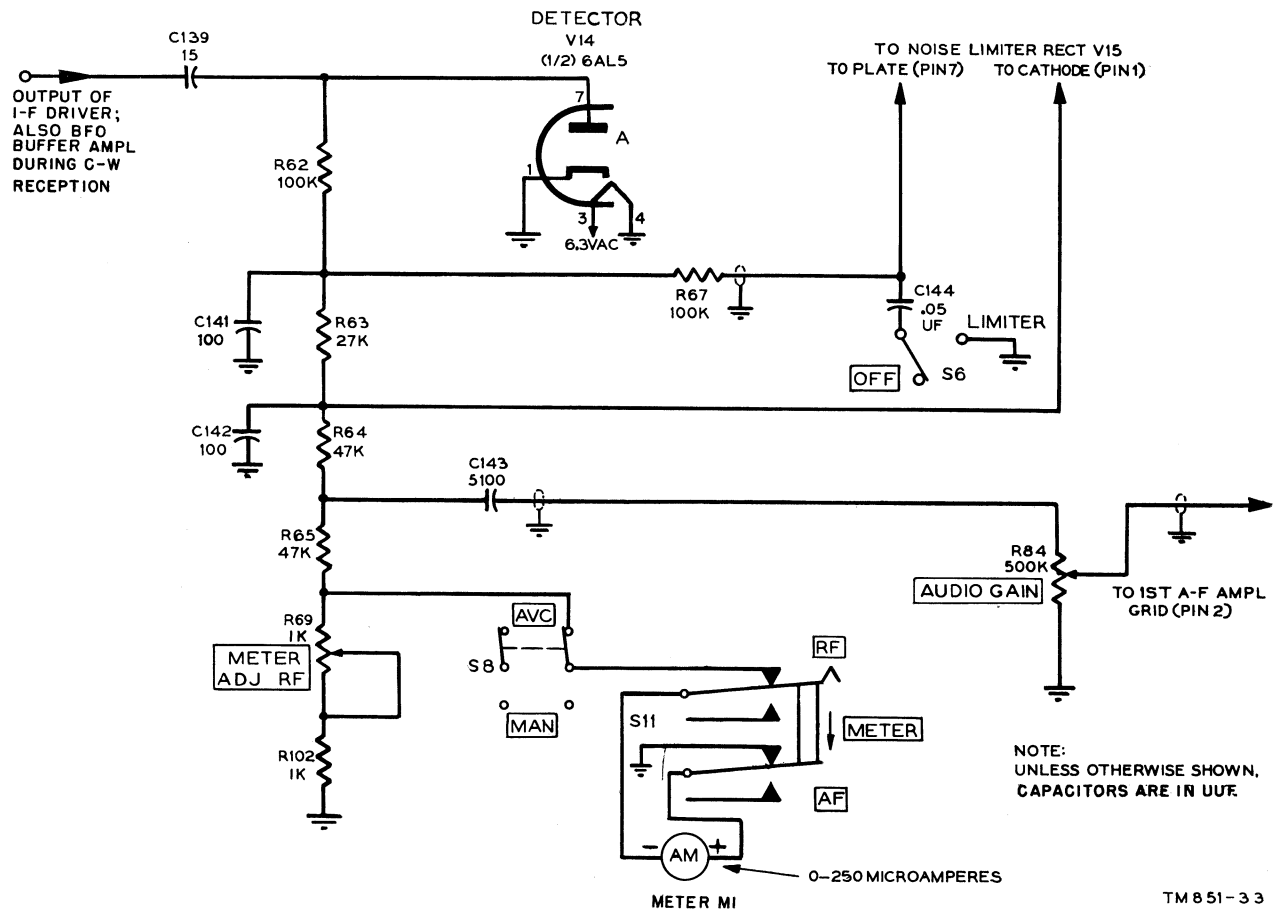
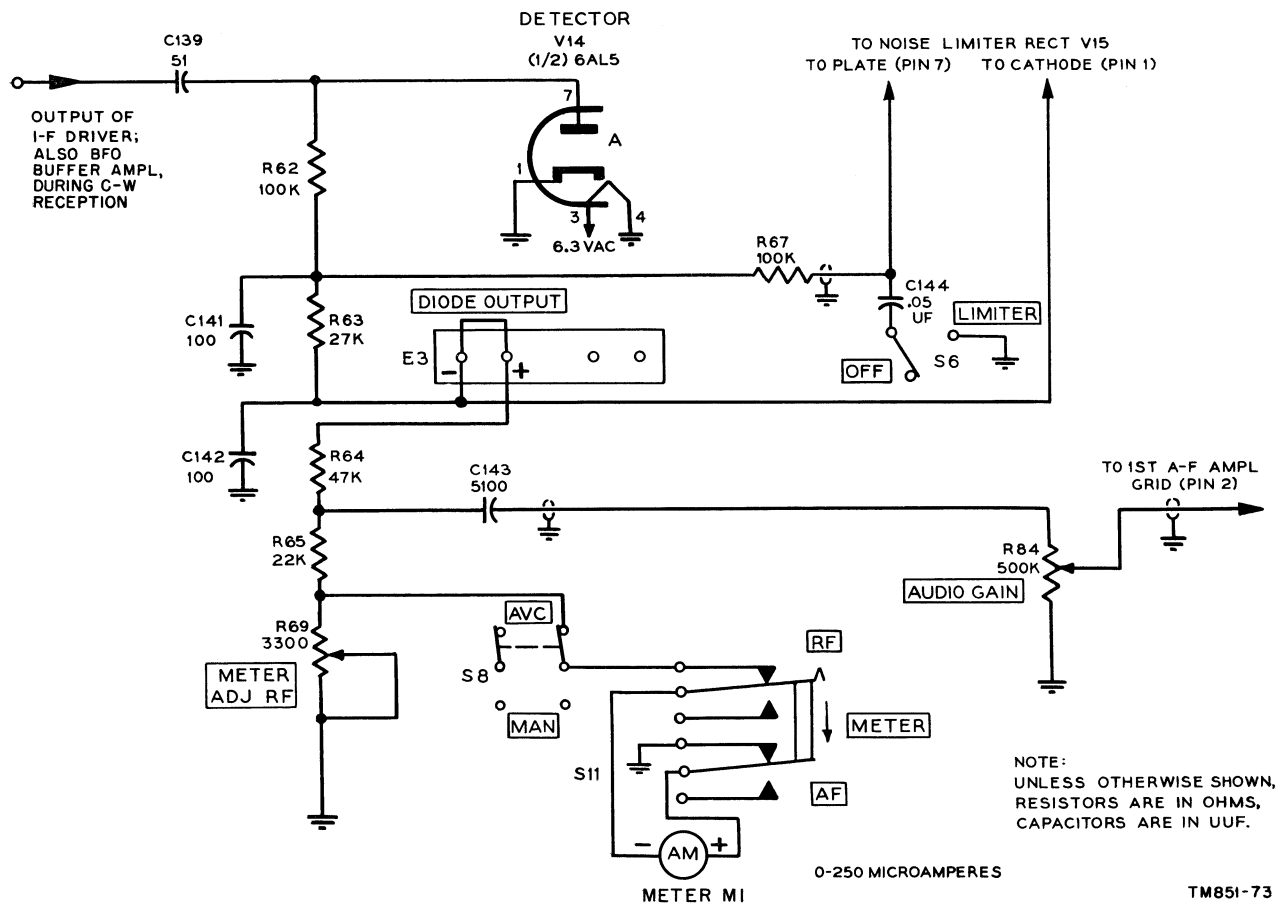

Figure 40. Radio Receivers R-483/FRR, R-274A/FRR, and R-320A/FRC, schematic diagram of detector.
Figure 41. Radio Receivers R-483A/FRR and R-274C/FRR, schematic diagram of detector.
(figs. 40 and 41)
a. Detector V14A functions to extract the original intelligence from the signal carrier tuned in. It is a diode type that provides a minimum of distortion that actually decreases with an increase in the input signal level. The d-c loading of V14A is the series combination of resistors R62, R63, R64, R65, potentiometer R69, and R102 (fig. 40). In figure 41, R102 is omitted and R69 is 3,300 ohms. Also, when AVC-MAN switch S8 is in the AVC position, the resistance of meter M1, in parallel with R69 and R102 (fig. 40 only), is part of the d-c load. The a-c loading of V14A, because of capacitors C141 and C142, is almost negligible, since each presents a high capacitive reactance at audio frequencies as compared to the effective resistance in parallel to them. The a-c loading of V14A, because of capacitor C143, is almost negligible, since the low capacitive reactance it presents at audio frequencies is in series with the high resistance of AUDIO GAIN control R84, and since both are in shunt with the low resistance presented by the series combination of R65, R69, and R102 (fig. 40 only). When LIMITER-OFF switch S6 is in the LIMITER position, the a-c loading of V14A, because of the low capacitive reactance of capacitor C144, is overcome by resistor R67 in series with C144. However, unless the noise actually impairs reception, the LIMITER-OFF switch should be placed in the OFF position.
e. The DIODE OUTPUT terminal board E3 (fig. 41) provides for use of the receiver d-c output to operate recording equipment associated with the receiver. Also, when two receivers are connected for space diversity system use, the jumped terminal at E3, when opened for one receiver, provides for the other receiver to develop the space diversity output (par. 4d and e). Radio Receiver R-320A/FRC, like Radio Receivers R-483A/FRR and R-274C/FRR, incorporates DIODE OUTPUT terminal board E3.